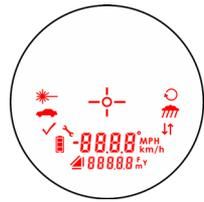

Figure 29
2. Press the  button. The display should look like Figure 29.
3. Compare the instrument's display to Figure 29. If any segment fails to display, contact LTI Service to arrange for repair. See the inside front cover for LTI contact information.